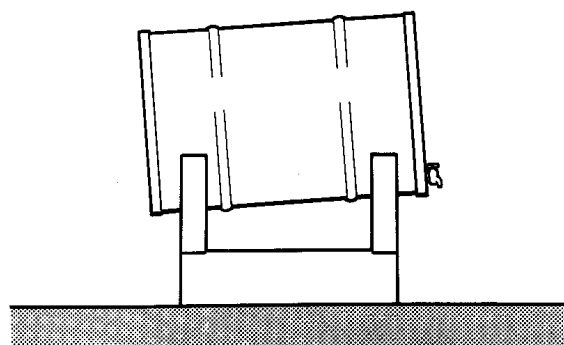

FIG. 53
5. Fig. 53. Drums should be stored under cover, so affording adequate protection against entry of water. Drums should be stored at a slight angle, thus allowing any water to run off the top lip. Drums of fuel should not be stacked for long periods before use.